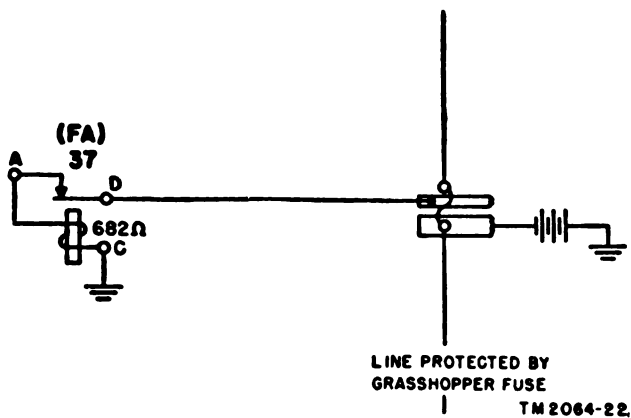

Figure 25. Fuse alarm circuit, schematic diagram.
36. Fuse Alarm Circuit (fig. 25)